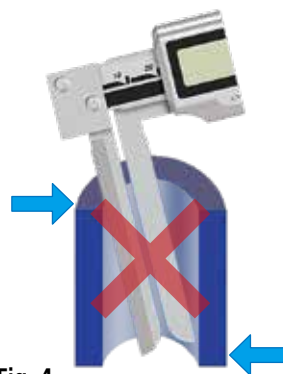

Fig. 4
2. Do not measure an object with the measuring faces tilted. (**Fig. 4**)